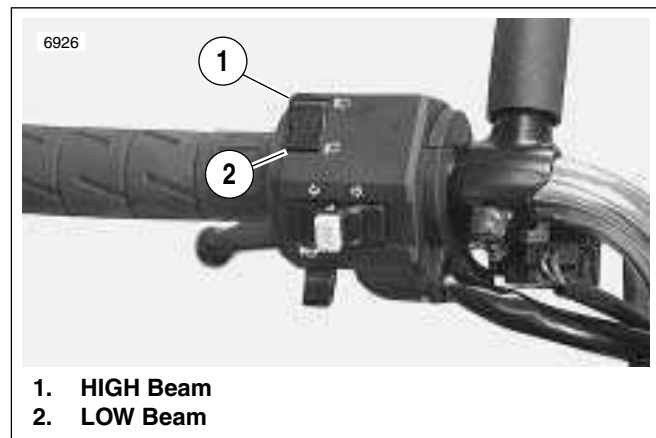

Figure 1-52. Headlamp Switch
7. See Figure 1-52. Turn ignition switch to IGN. Set handle-bar headlamp switch to HIGH beam position (1).